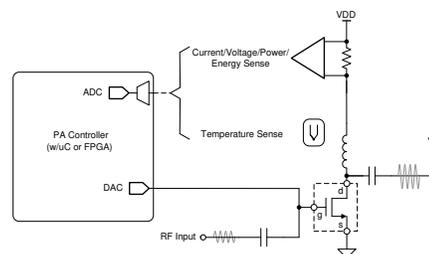

Figure 3. PA Biasing and Current Sensing
The bias current in power amplifiers (PA) is adjusted to meet the need of an end application, modulation scheme, and operation class. A typical PA with current sensing is shown in Figure 3.